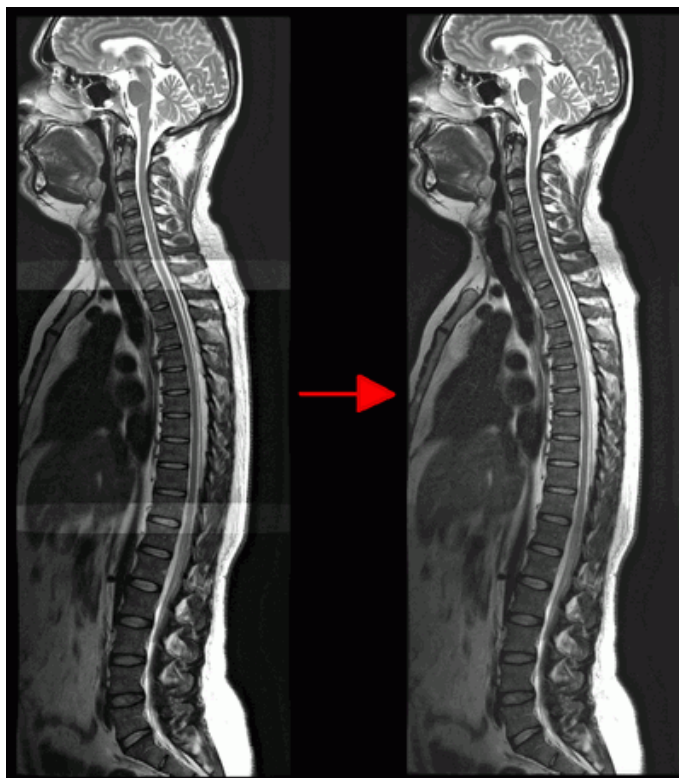

Figure 4.12: Changes in the «stitching» mode (the right-hand image is the image after stitching)
3. Click the  **Image stitching mode** button on the toolbar. The image will change as shown in Fig. 4.12 (the right-hand image is the image after «stitching»).